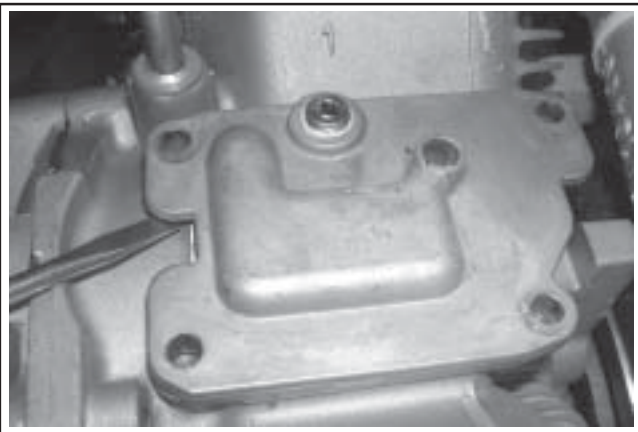

Figure 9-35. Break Breather Cover Seal.
4. Pry under the protruding edge of the breather cover with a screwdriver to break the RTV or gasket seal. See Figure 9-35. Do not pry on the sealing surfaces as it could cause damage resulting in leaks. Most engines use a formed gasket rather than RTV sealant.